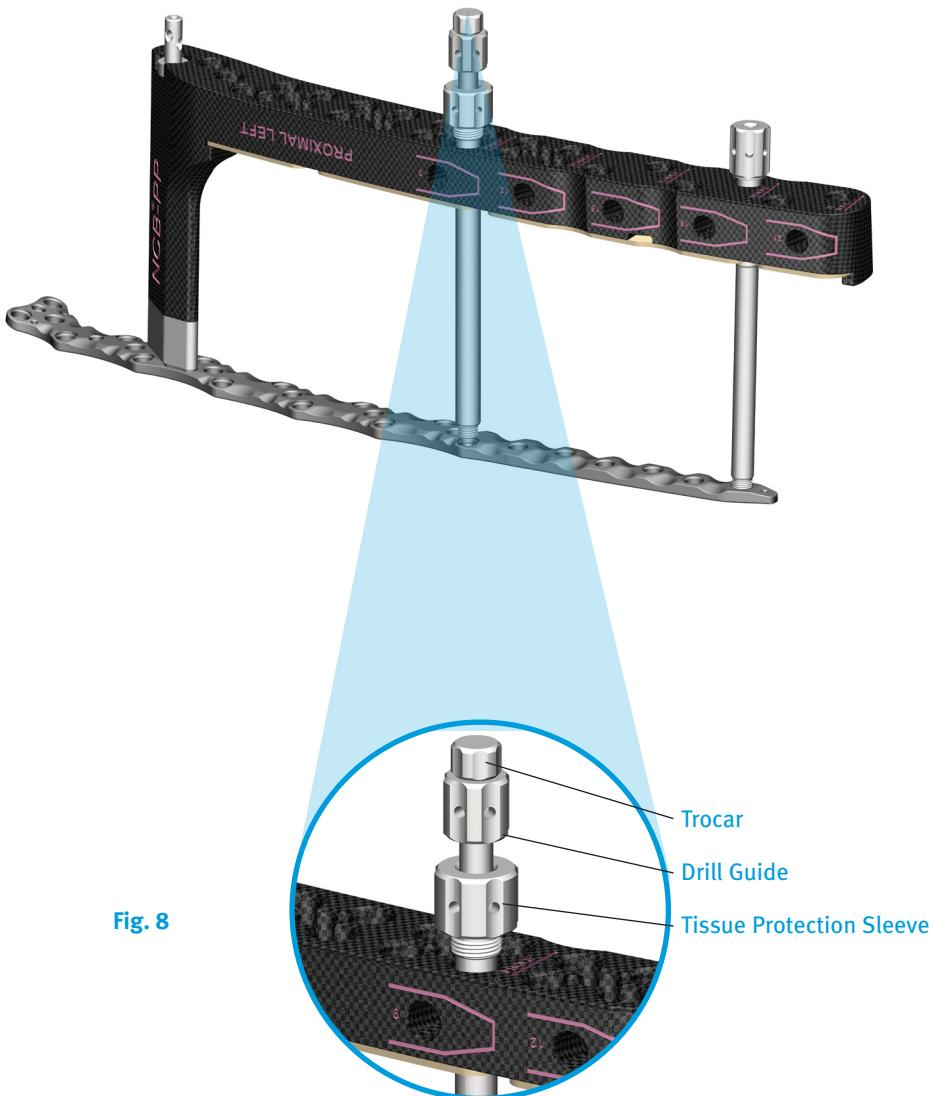

Fig. 8
1. Make a stab incision to access the plate hole. Insert the *NCB* Trocar, Drill Guide, and Tissue Protection Sleeve assembly (REF 02.00024.060-062) (**Fig. 8**).